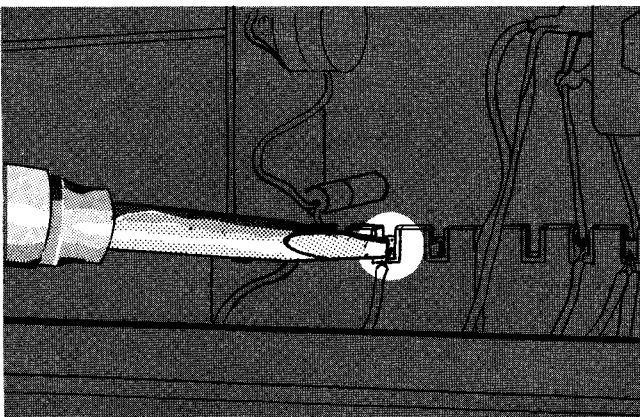

Fig. 5-2. Correct method of applying heat when soldering to a ceramic terminal strip.
3. Apply heat to the solder connection by touching the soldering iron tip to the side and base of the connection (Fig. 5-2). Do not apply pressure with the iron or insert the tip into the notch, as this may break or chip the ceramic strip.